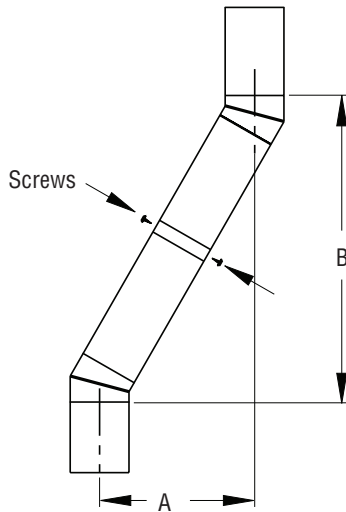

Figure 9 - Elbow Offset
pulling chimney upward after locking. The chimney will not come apart if properly locked. It is not necessary to add screws to keep the chimney together (exception - see Figure 9, page 9).
4. All pipe connections between offset and return must be secured with two screws on outer pipe only (see Figure 9, page 9). Do not penetrate inner stainless.